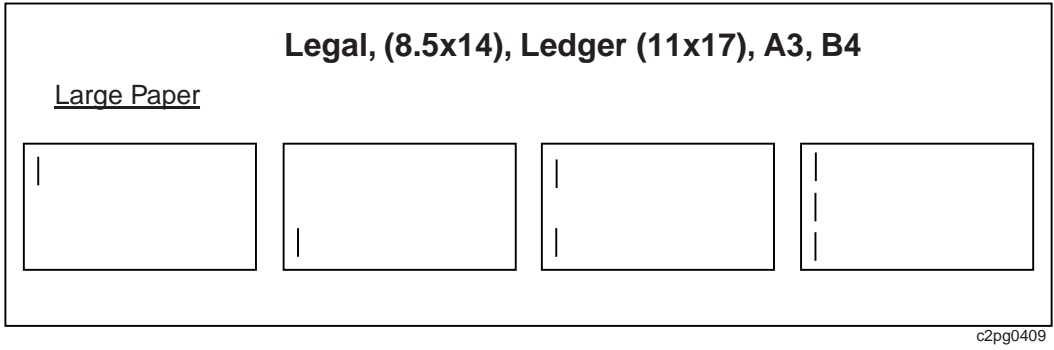

Figure 5. Staple Positions Allowed—Legal, Ledger, A3, and B4 Paper Sizes
Short-Edge Feed	Describes the Landscape Orientation of paper as it travels through the paper path (see Figure 5 on page 9).
- If your printer has the Variable Size Paper and Tabs option, you can run Letter-size (8.5x11) and A4-size stock with the short-edge leading (as depicted by Landscape Orientation in Figure 5 on page 9). Other variable size papers (not shown in Table 2 on page 7) that are approved for your **printer** cannot be run through the finisher, and must be run into the **printer** base stacker.